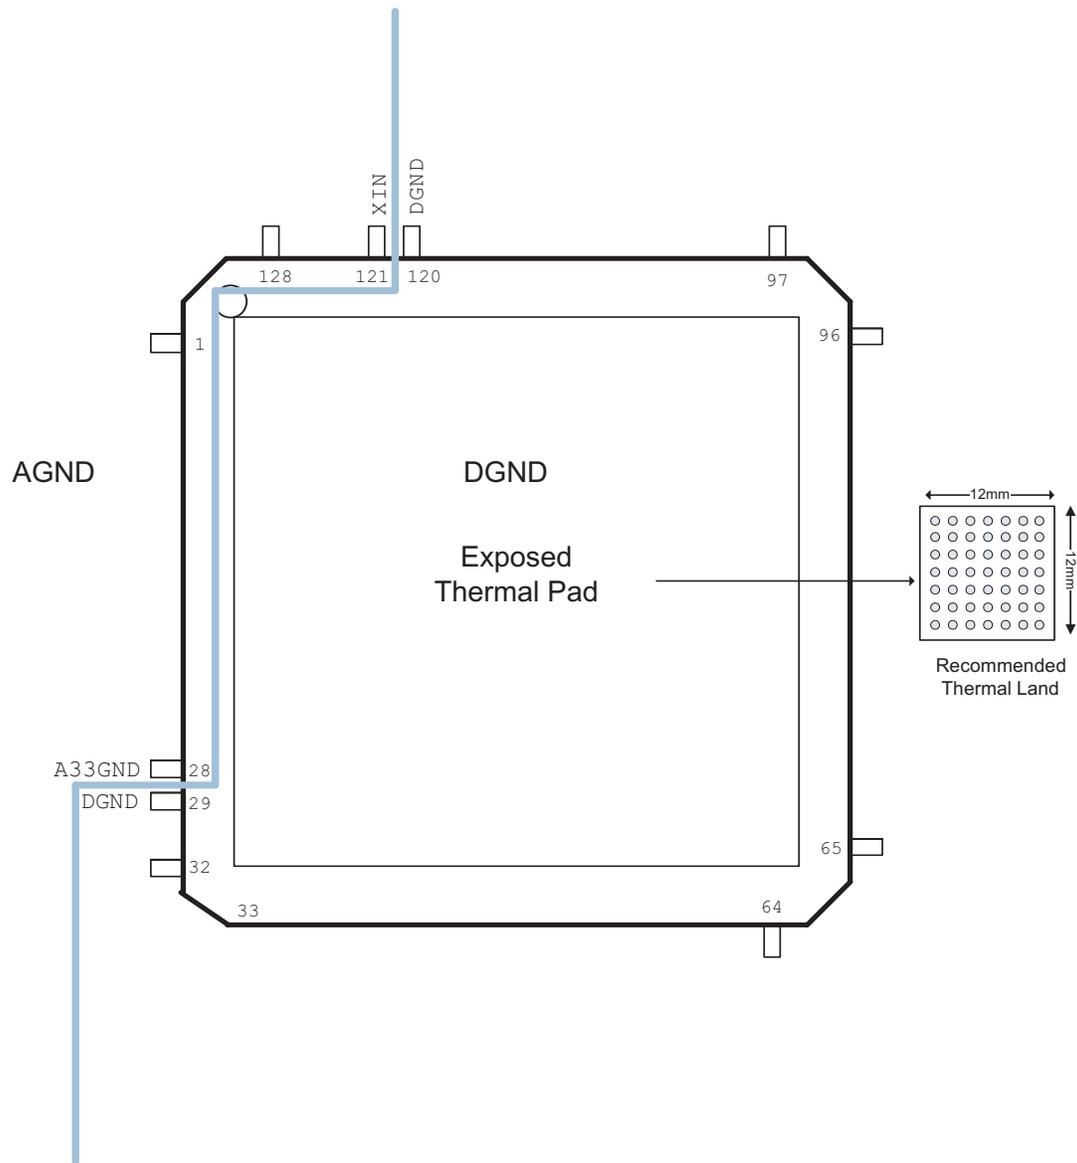

Figure 1. Recommended Split Between Ground Planes
- See Figure 1 for the recommended GND split.